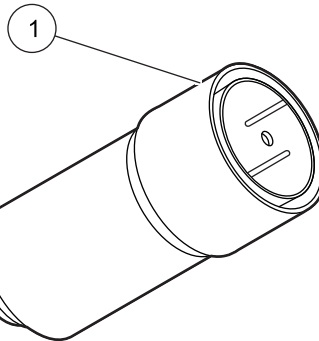

Figure 15 Removal of the pump body
8. Remove pump body (refer to Figure 15 on page 31).